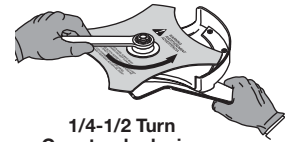

Fig. 10
- Without a torque wrench, use a 1/2 inch closed-end or socket wrench, turning the nut until the blade retainer is snug against the shaft bushing. Make sure that the blade is installed correctly, then rotate the nut an additional 1/4 to 1/2 turn counterclockwise (Fig. 10).